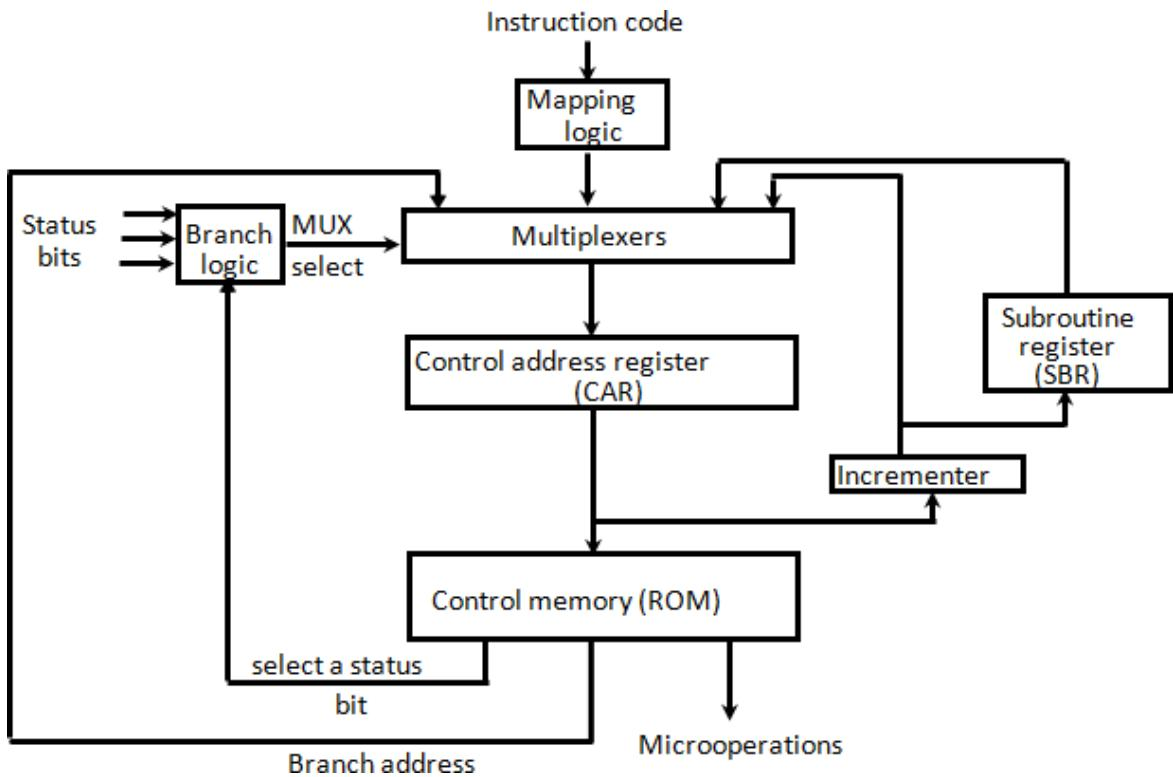

Figure 4.2: Selection of address for control memory
- Figure 4.2 shows a block diagram of a control memory and the associated hardware needed for selecting the next microinstruction address.
- The branch logic of figure 4.2 provides decision-making capabilities in the control unit.